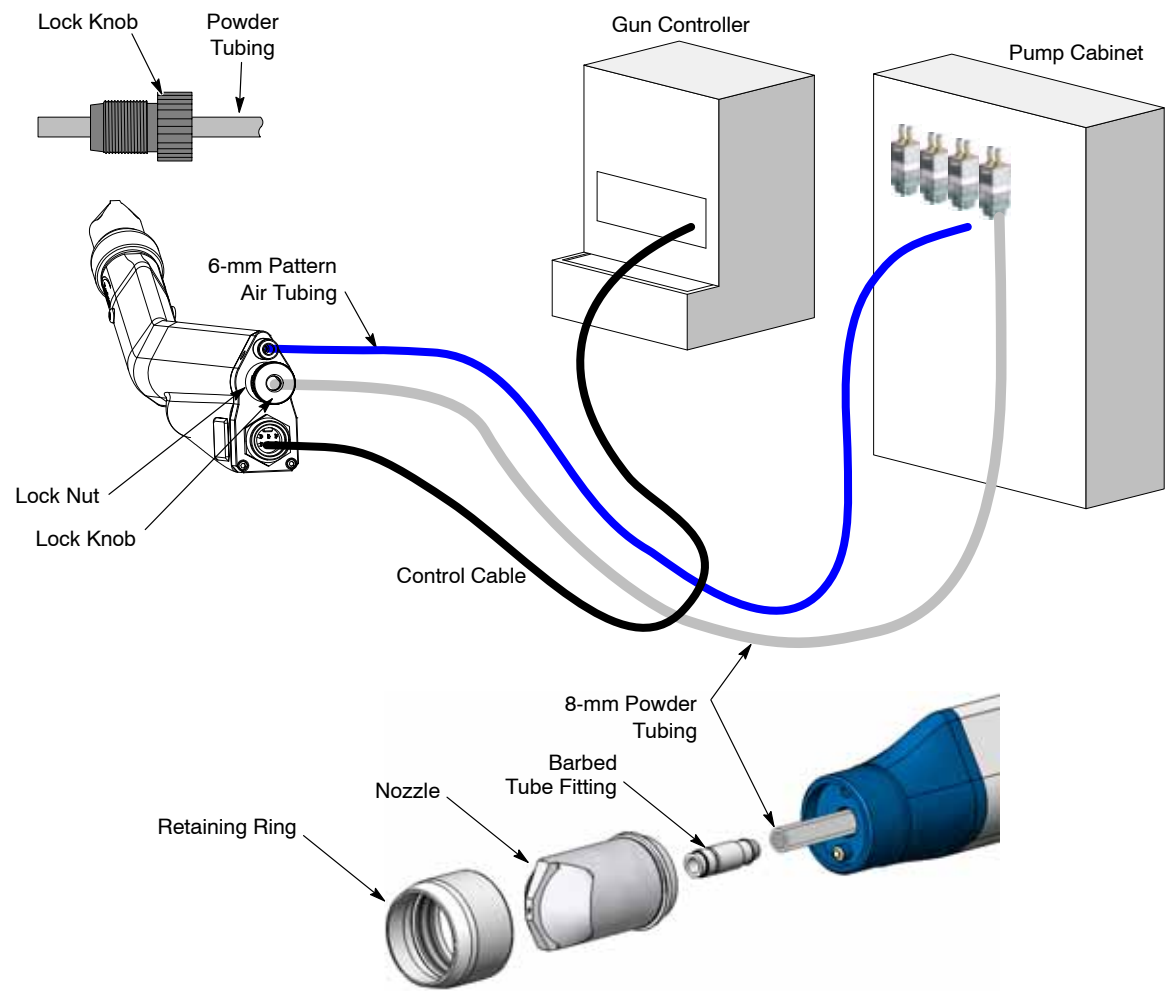

Figure 4 *Tubing and Cable Connections*
1. See Figure 4. Connect the control cable to the gun and the appropriate receptacle on the iControl cabinet. Tighten the cable nuts securely.